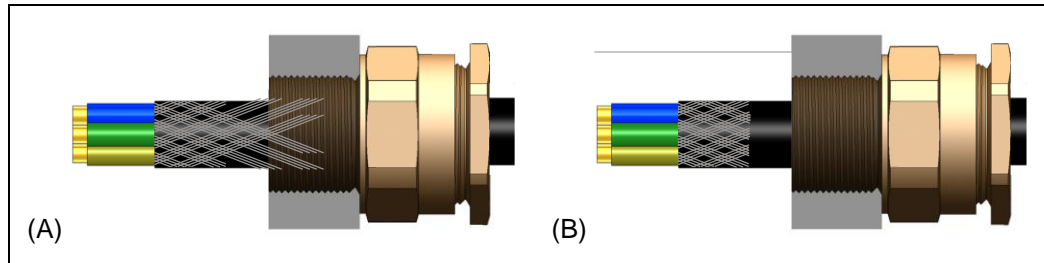
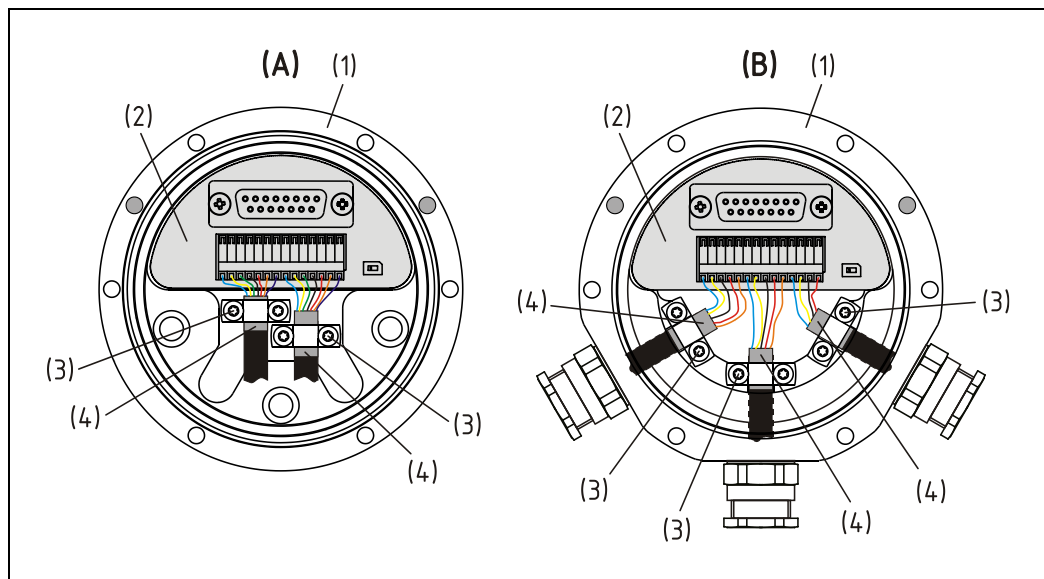

Figure 11: Cable inlet with the installed cable
Figure 12: Connection cap with axial (A) and radial (B) cable inlets
Put through the cable with the shielding braid through the cable inlet and move it to the desired position (A). Then tighten the grommet nut (4) manually by hand until a drag force is felt when the seal is placed around the cable. Finally, retighten the grommet nut with the screw key for another turn. Crosscut the shielding braid so that the shielding braid in the end position is located only in the clamp area of the cable clamp; see Figure 11 (B) and Figure 12.